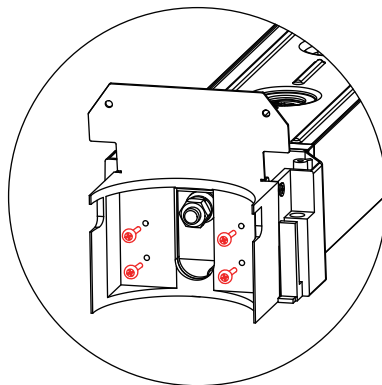

Fig. 2
**Step 2:** Take eight M4×10 pan head Phillips screws from the round pole screw kit, and use them to secure the rubber pads (included in the box) onto the grabber. See fig.2 & 3